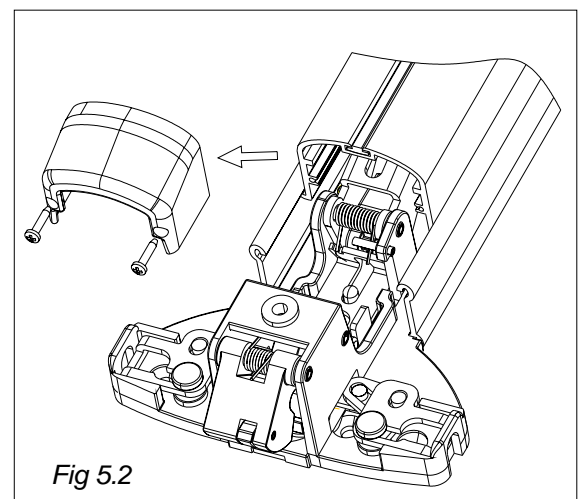

Fig 5.2
- 2) Using a #0 Pozi head driver, remove the two screws from the end of cap at the latch end. (See Fig 5.2)
f) Refit the front end cap with #0 Pozi head driver. (**See Fig 5.2**)